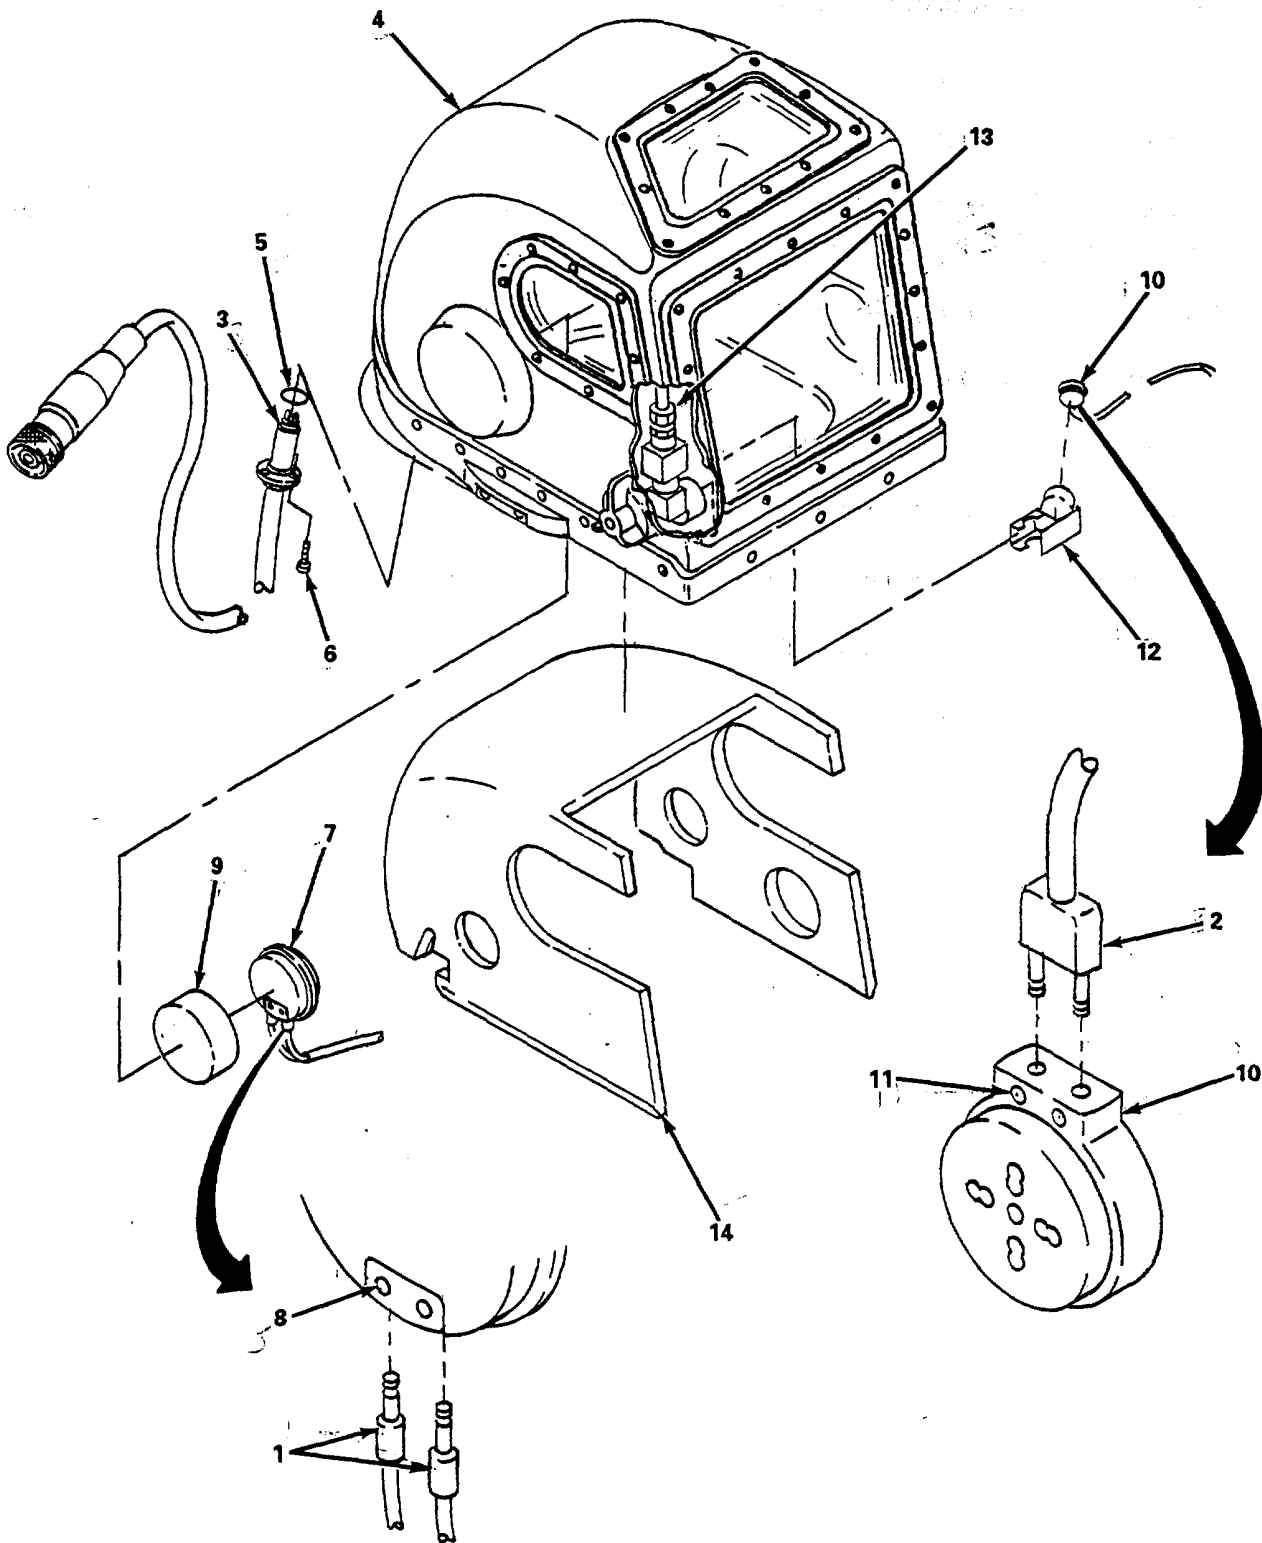

Figure 4-26. Helmet Communications Assembly, Assemble.
- (2) *Assemble.* (figure 4-26)
- (a) Connect leads (1) and (2) as tagged to adapter (3) and solder.
- (b) Route leads (1) and (2) in helmet (4) and install adapter (3) and preformed packing (5) and secure with three screws (6). Torque screws to 13-15 in.-lb. (1.5-1.7 Nm).
- (c) Connect leads (1) as tagged to left speaker (7) and tighten two screws (8).
- (d) Install speaker (7) in holder (9).
- (f) Connect leads (2) as tagged to microphone (10) and tighten two screws (11).
- (g) Install microphone (10) in holder (12).
- (h) Connect holder (12) to air supply tube (13).
- (i) Install helmet liner (14).